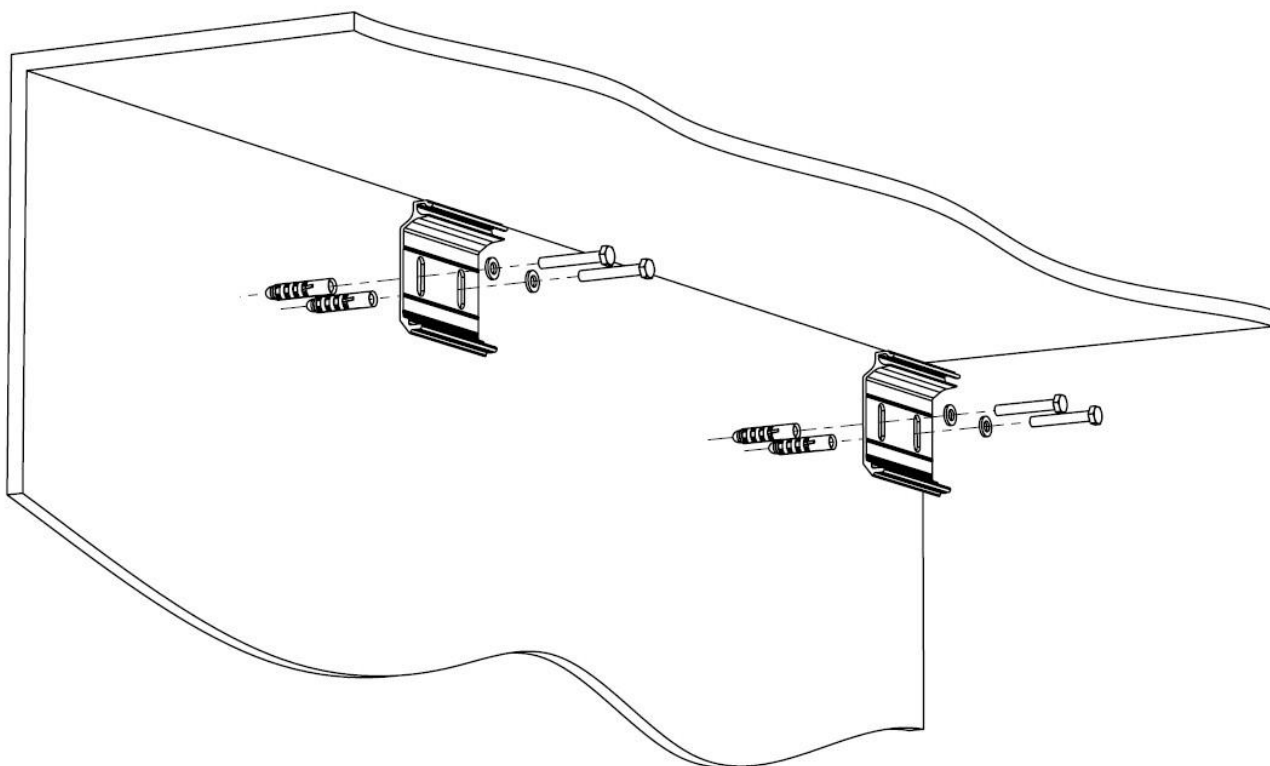
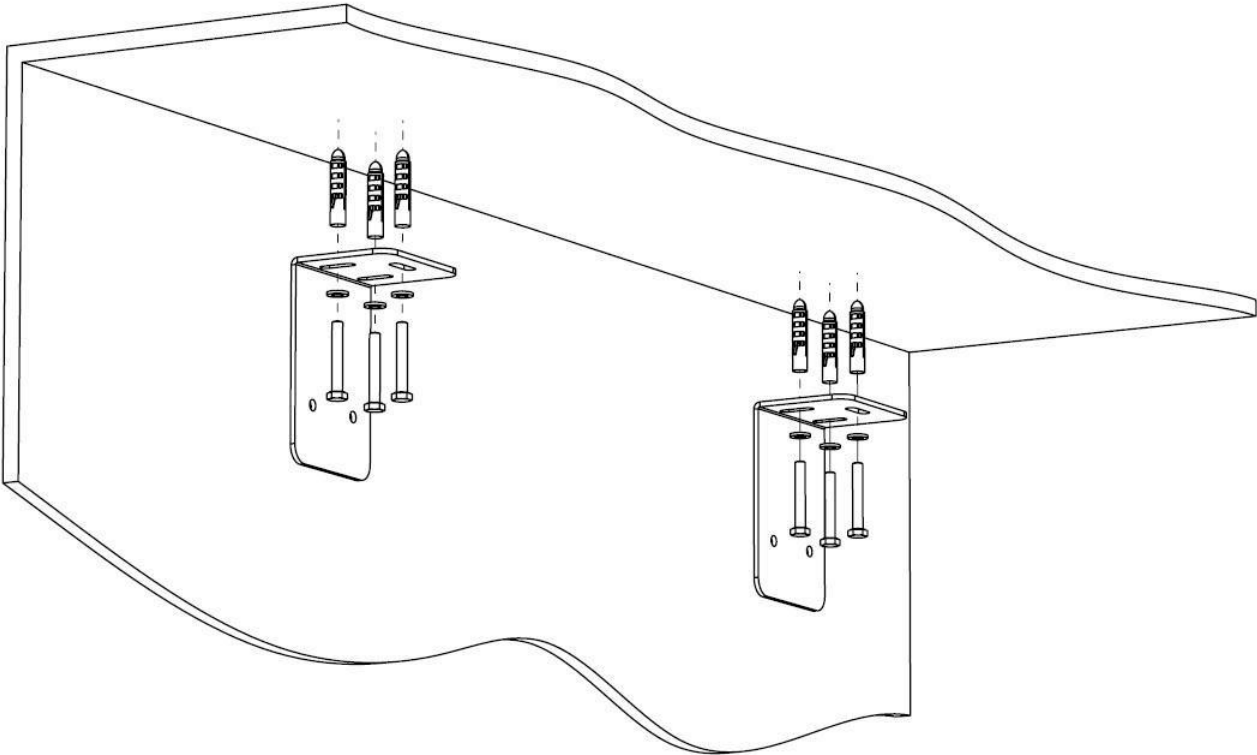

Fig.2a
Fig.2b
2. Depending on the assembly place, screw the handles to the wall (Fig.2a) or the ceiling (Fig.2b) using assembly screws.